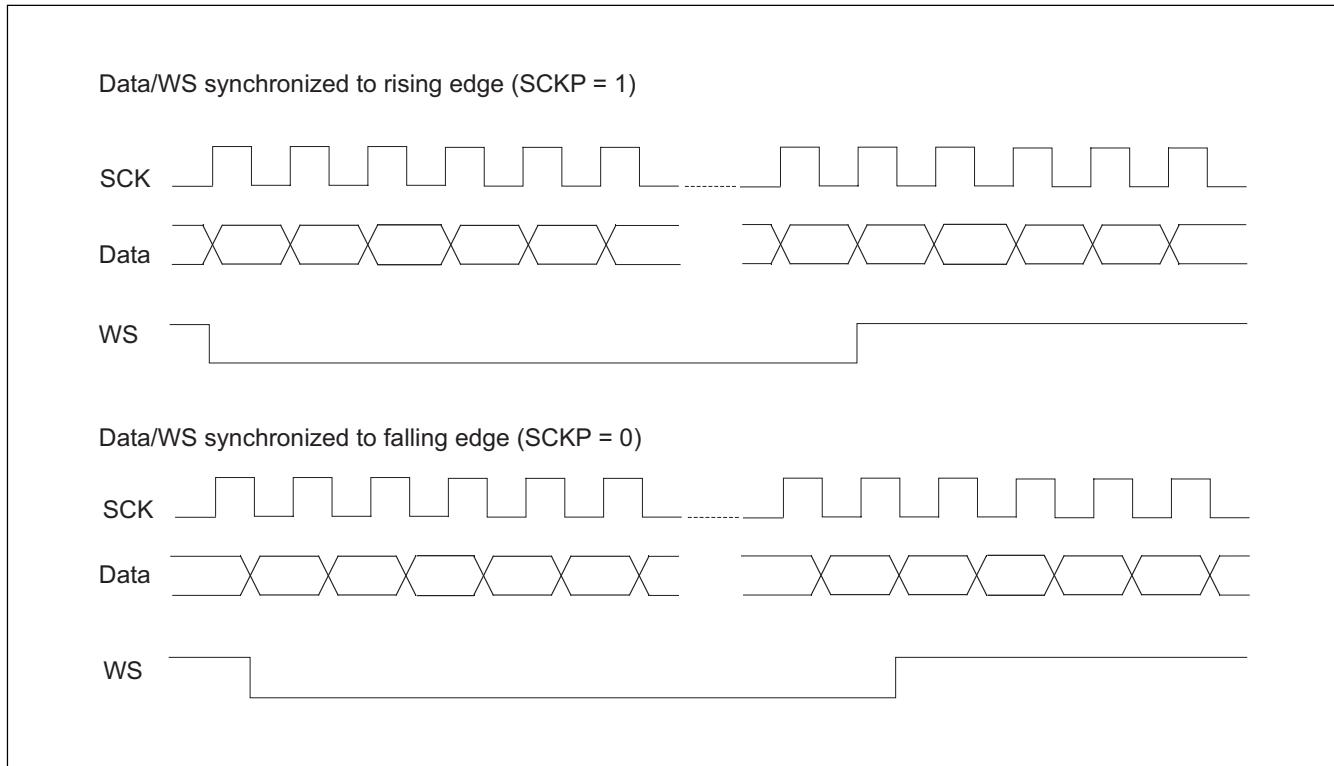

Figure 1.117. Transmit and receive data (and WS) synchronized to SCK
- Transmit/receive data and WS synchronized to the rising edge or the falling edge of SCK as shown in Figure 1.117.